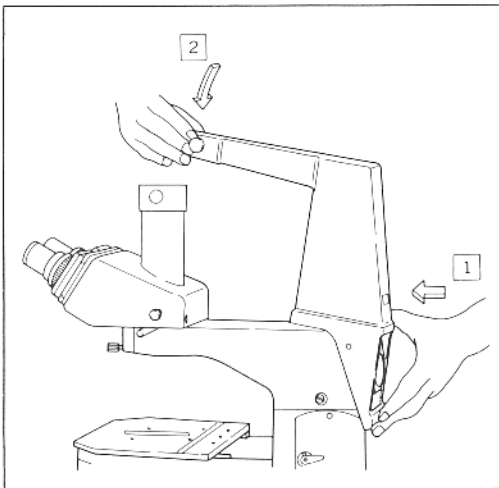

Fig. 9
- 2) Mount the photo support bracket over the high-intensity light-source attaching dovetail, as shown in Fig. 9, fasten it onto the back of the microscope stand by means of the photo support bracket lock screw.